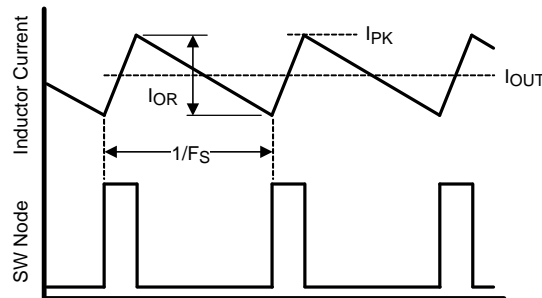

Figure 27. Inductor Current Waveform
- **L1:** The main parameter controlled by the inductor value is the current ripple amplitude (I_{OR}). See Figure 27. The minimum load current for continuous conduction mode is used to determine the maximum allowable ripple such that the inductor current's lower peak does not fall below 0mA. Continuous conduction mode operation at minimum load current is not a requirement of the LM25085, but serves as a guideline for selecting L1. For this example, the maximum ripple current is: